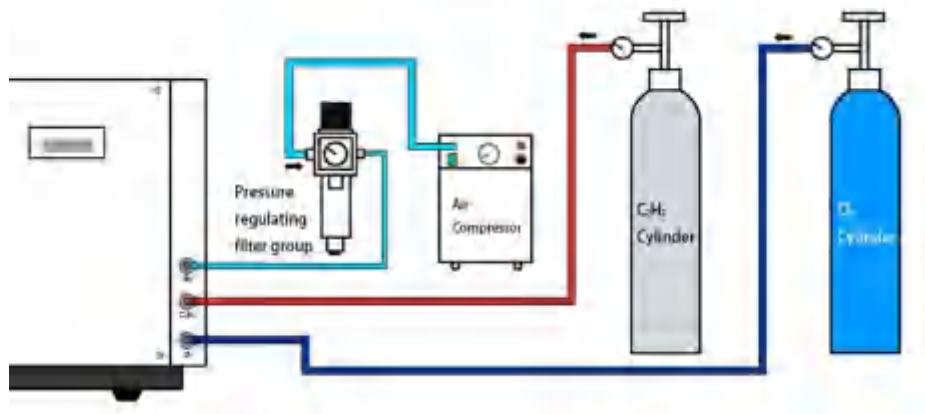

Fig. 2-7 Schematic diagram of each gas path interface and gas path connection on the back of the instrument
- e) ④ [Only models with extended high temperature flame function] Oxygen circuit: use spare $\Phi 7 \times 3$ blue rubber tube to connect the oxygen gas source outlet → the O₂ interface of the instrument;
- f) When connecting the external pipeline of the instrument, it can be cut to an appropriate length as needed. The connection diagram is shown in Figure 2.7 below.